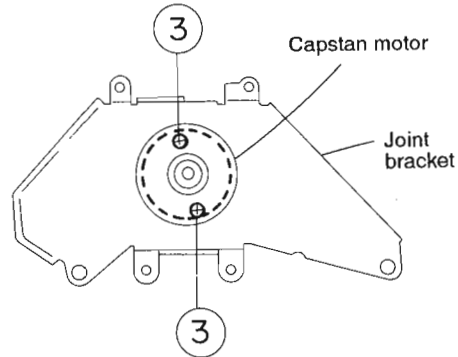

Fig.3-31
■ **Removing the Capstan Motor (See Fig. 3-31)**